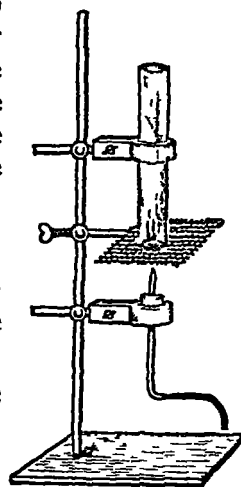

FIG 51
**A sensitive flame**—Bend a piece of glass tubing at right angles Draw out one end, cut off so as to leave a very small orifice Connect the other end with the gas supply (fig 51), 2" above the orifice place a square piece of brass gauze 6" side, turn on the gas, ignite it above the gauze, and surround the flame with a wide piece of glass-tubing about 6" long Turn the gas-tap until the flame just does not flare